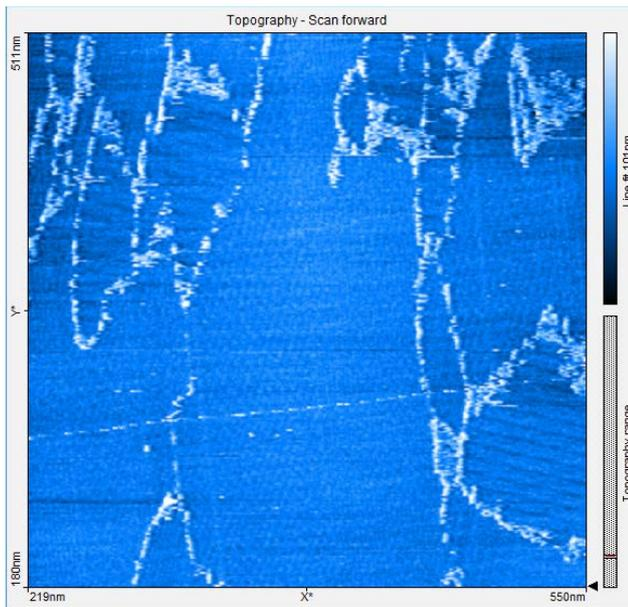
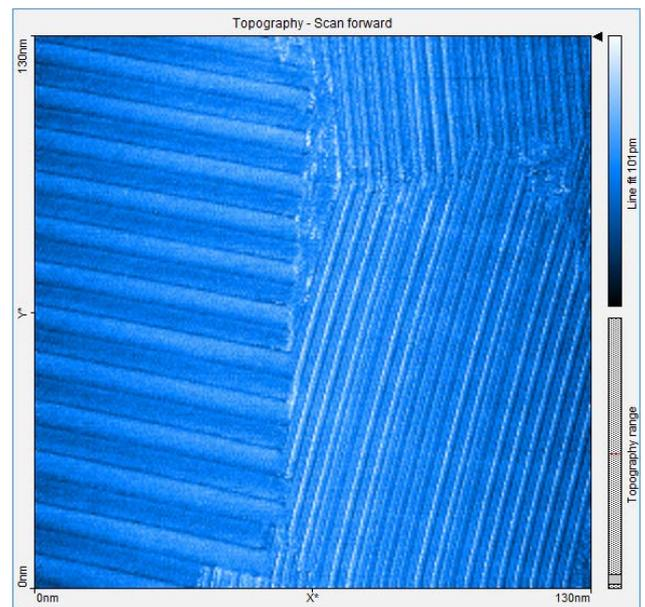
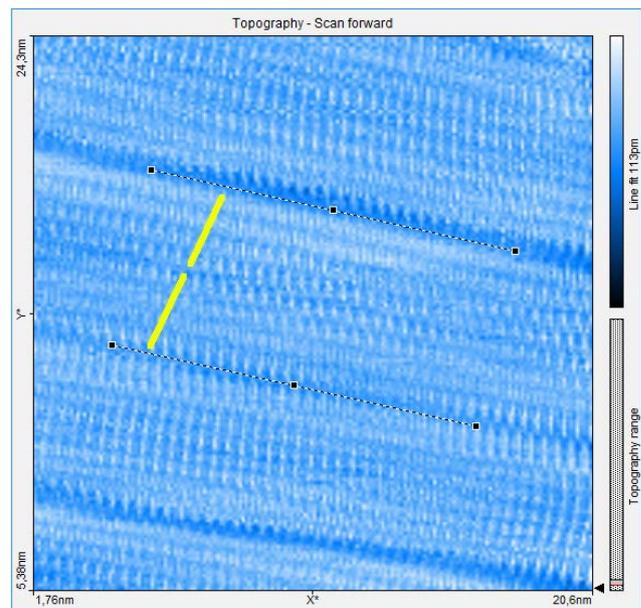

Fig. 15.7-7 Domains with different molecule alignments at the phenyloctane interface
Fig. 15.7-8 TMA and hexadecanol at the phenyloctane interface. Left: pure hexadecanol, right: alternating hexadecanol and TMA
**Fig. 15.7-11** Dimers of two carboxylic acids. Grey: carbon, red: oxygen, white: hydrogen3
In figure 15.7-7 the mixture of TMA/hexadecanol molecules is shown. One sees domains with differently aligned molecules. A zoom in such a domain border is shown in figure 15.7-8 (in phenyloctane) and 15.7-9 (in toluene). In the right of image 15.7-8 and in image 15.7-9 there are hexadecanol molecules side by side and TMA molecules between lines of hexadecanol as visible in image 15.7-10. Here the TMA molecules are aligned in between the hexadecanol molecules as seen in figure 15.7-11. Furthermore figure 15.7-12 shows hexadecanol molecules aligned side by side as in the left of figure 15.7-8. One sees that across one "stip" of the structure there are two hexadecanol molecules aligned in an angle of  $180^\circ$  to each other. Additionally the 3D representation of figure 15.7-10 is shown in Fig. 20.
**Fig. 15.7-11** Zoom into the left of image 15: Hexadecanol at the phenyloctane interface. The distance between the lines is 6.1 nm. Two molecules are indicated in yellow